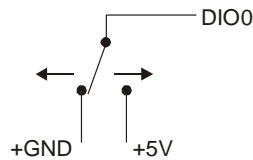

Figure 4. Schematic showing switch detection by digital channel DIO0
When you configure the digital bits for input, you can use the USB-5201 digital I/O terminals to detect the state of any TTL-level input. Refer to the schematic shown in Figure 4. If you set the switch to the +5 V input, DIO0 reads *TRUE* (1). If you move the switch to GND, DIO0 reads *FALSE* (0).